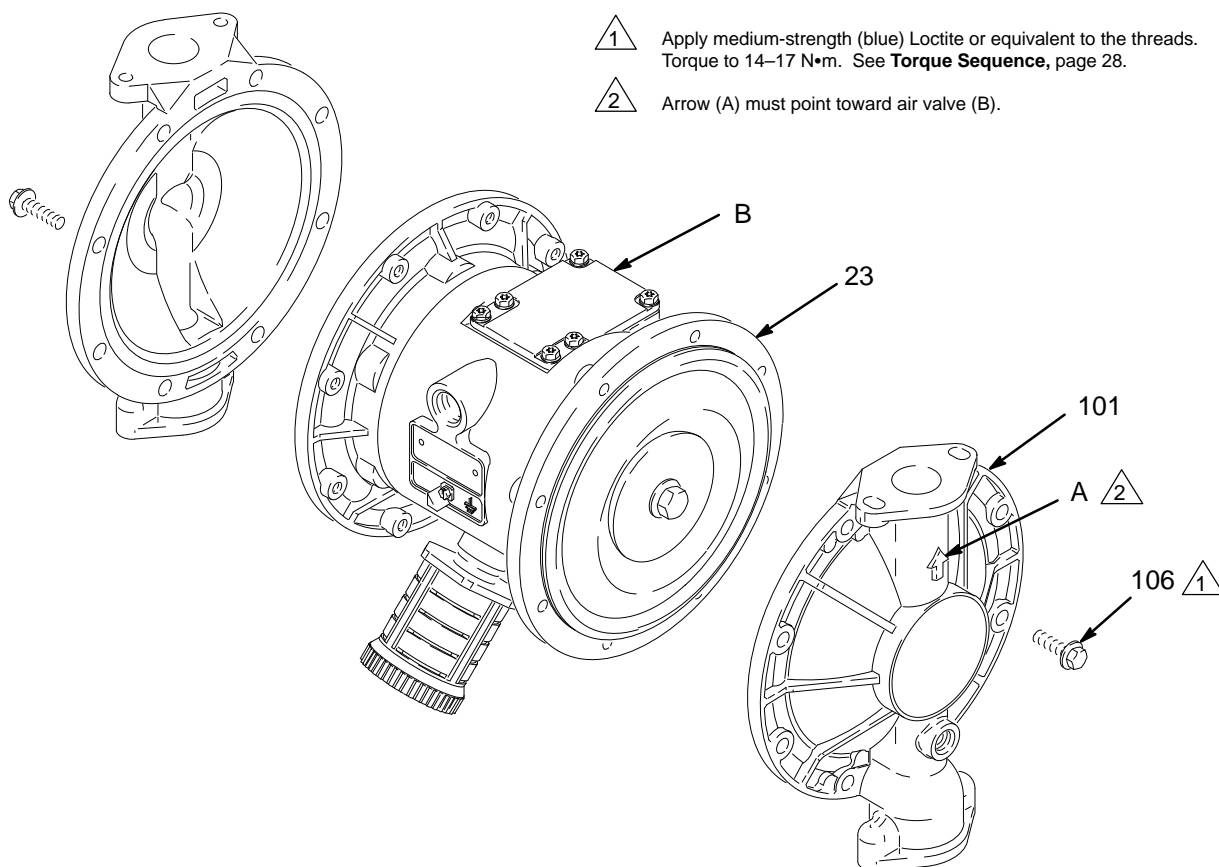

Fig. 13
3. Using a 10 mm socket wrench, remove the screws (106) holding the fluid covers (101) to the air covers (23). Pull the fluid covers (101) off the pump. See Fig. 13.
- c. *On PTFE models only*, install the PTFE diaphragm (403\*). Make certain the side marked AIR SIDE faces the center housing (1).
- d. Install the diaphragm (401\*) on the bolt. Make certain the side marked AIR SIDE faces the center housing (1).
- e. Install the air side diaphragm plate (104) so the rounded side faces the diaphragm (401). This plate is used on all models, and is stamped with its part number.
- f. Apply medium-strength (blue) Loctite® or equivalent to the bolt (107) threads. Screw the bolt into the shaft (24) handtight.
3. Grease the length and ends of the diaphragm shaft (24), and slide it through the housing (1).
5. Hold one shaft bolt (107) with a wrench and torque the other bolt to 27–34 N•m at 100 rpm maximum.
6. Align the fluid covers (101) and the center housing (1) so the arrows (A) on the covers face the same direction as the air valve (B). Secure the covers with the screws (106), handtight. See Fig. 13. Using a 10 mm socket wrench, torque the screws oppositely and evenly to 14–17 N•m. See **Torque Sequence**, page 28.